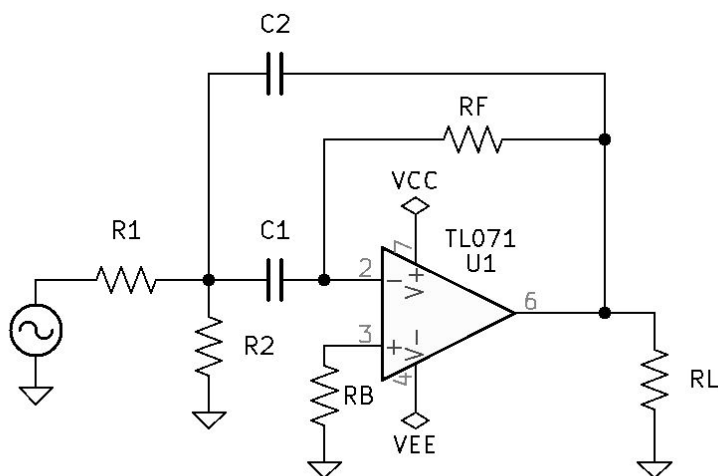

Figure 8.8: Single Stage Band-Pass Second-Order Active Filtering Circuit.
1. See Figure 8.8 *Single Stage Band-Pass Second-Order Active Filtering Circuit* on page 83.